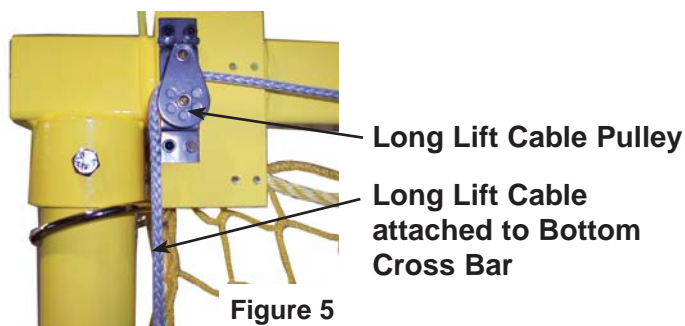

Figure 5
**8.** Run the long lift cable up through the single top mounted pulley and then across to the upper pulley on the opposite side of the Cross Bar. Run the short lift cable up through and over the lower pulley. See Figure 1 for overall view and Figures 5 and 6 for pulley details.